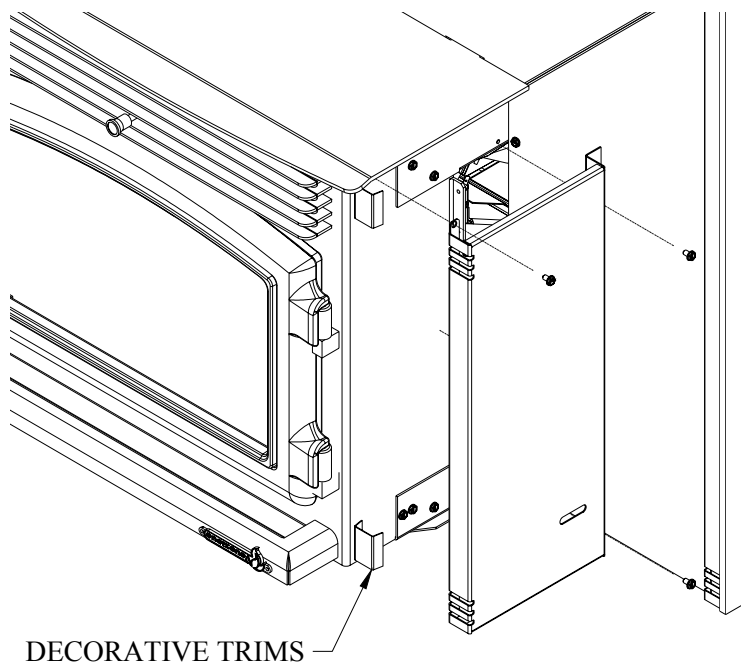

Figure 34
- 9- Install the decorative side panels on the unit (Figure 34)